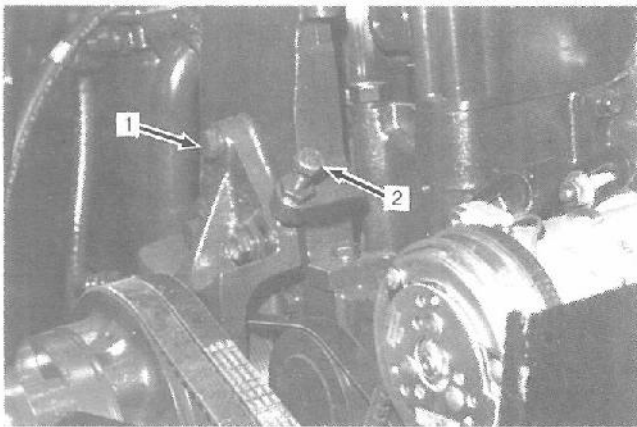

Figure 52:
2. Using the adjusting screw adjust the idler pulley until the proper belt tension is indicated on the gauge. (Fig. 52)
4. Belt tension should read as indicated in Fig 52 on applicable gauge.